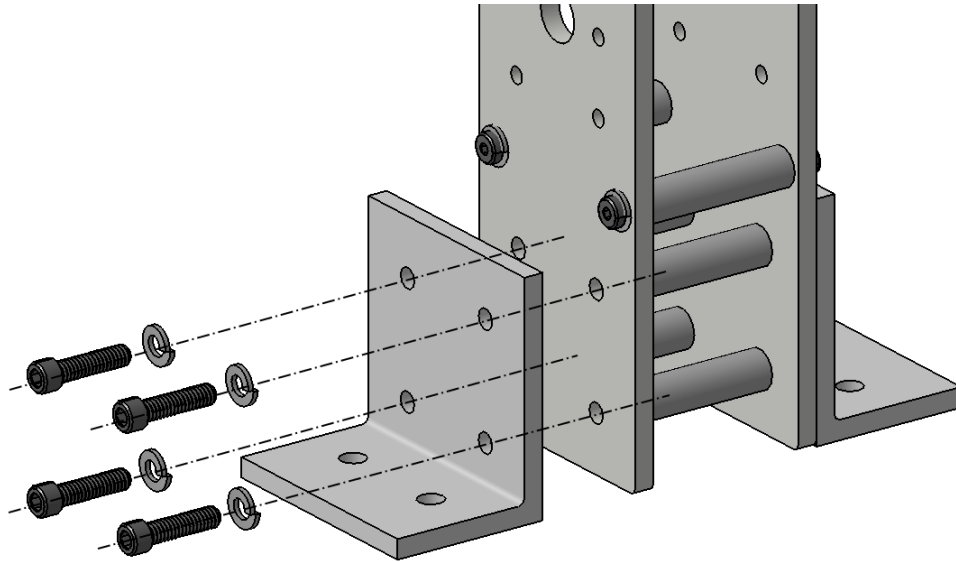

Fig. 4.10: Connect the L brackets lower mount (#XABY) with the support
- ❑ Place the L bracket lower mount (#XABY) on the outer side of the two-plate support, aligning the four holes in the bottom of the support (shown as the lowest holes in fig. 4.10).